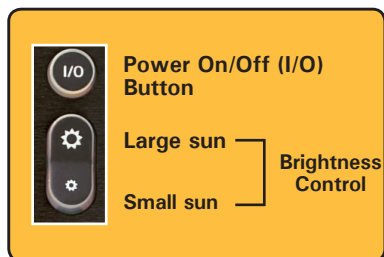

Figure 17
On right hand of the AWM Series L Display bezel are two (2) Operator Control buttons. (Figure 17)